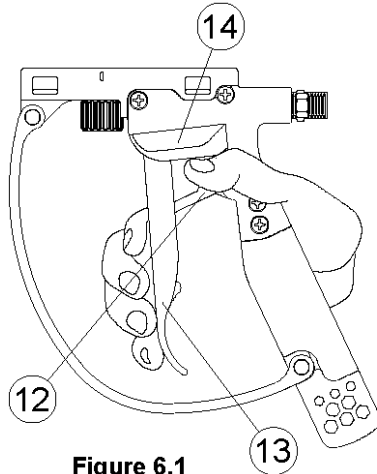
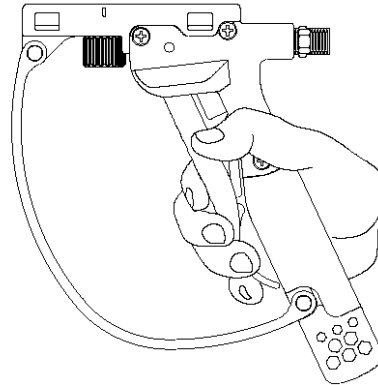

Figure 6.1
Figure 6.2
- 5.3.8 To test the G3 Trigger Deadman (#10) **2 Position Module**, press down the Safety Flap (#12) and pull the Trigger (#13) to activate the deadman valve and start the blast operation. See Figures 6.1 and 6.2. Release the trigger to stop blasting.
- 5.4.6 To test the G3 Trigger Deadman (#10) **2 Position Module** (See Figure 15.2), press down the Safety Flap (#12) and pull the Trigger (#13) to activate the deadman switch and start the blast operation. See Figures 6.1 and 6.2. Release the trigger (#13) to stop blasting.
- 6.5 Place the thumb on top of safety flap (#12) and just under the curved safety flap guard (#14) on the trigger deadman handle. Thumb must be placed in the proper location to easily move the safety flap (#12) down to allow the trigger (#13) to move to the blast position. (See Figure 6.1) Only place thumb in ready position when ready to blast. Refer to video link below.
- 6.7.1 The trigger deadman (#10) is 2-position (Blast OFF/ON: see Figures 15.1 – 15.3). The hand position will move from Figure 6.1 to Figure 6.2.
- 7.2.1 While electric supply to the Trigger Deadman (#10) is disconnected, push the Safety Flap (#12) down and squeeze the Trigger (#13) until it is fully engaged (See Figures 6.1 - 6.2). Release the Trigger. The Trigger and Safety Flap should return to off position. Squeeze the Trigger again, without moving the Safety Flap, to confirm the Safety Flap does not allow the trigger to move. If the Trigger and Safety Flap do not return to the off position, clean the Trigger and Safety Flap pivot points. Repeat until the Trigger and Safety Flap function properly. (See Figure 15.3)
- 7.3.1 While air supply to the Trigger Deadman (#10) is disconnected, push the Safety Flap (#12) down and squeeze the Trigger (#13) until it is fully engaged (See Figures 6.1 - 6.2). Release the Trigger. The Trigger and Safety Flap should return to off position. Squeeze the Trigger again, without moving the Safety Flap, to confirm the Safety Flap does not allow the Trigger to move. If the Trigger and Safety Flap do not return to the off position, clean the Trigger and Safety Flap pivot points. Repeat until the Trigger and Safety Flap function properly. (See Figure 15.2)